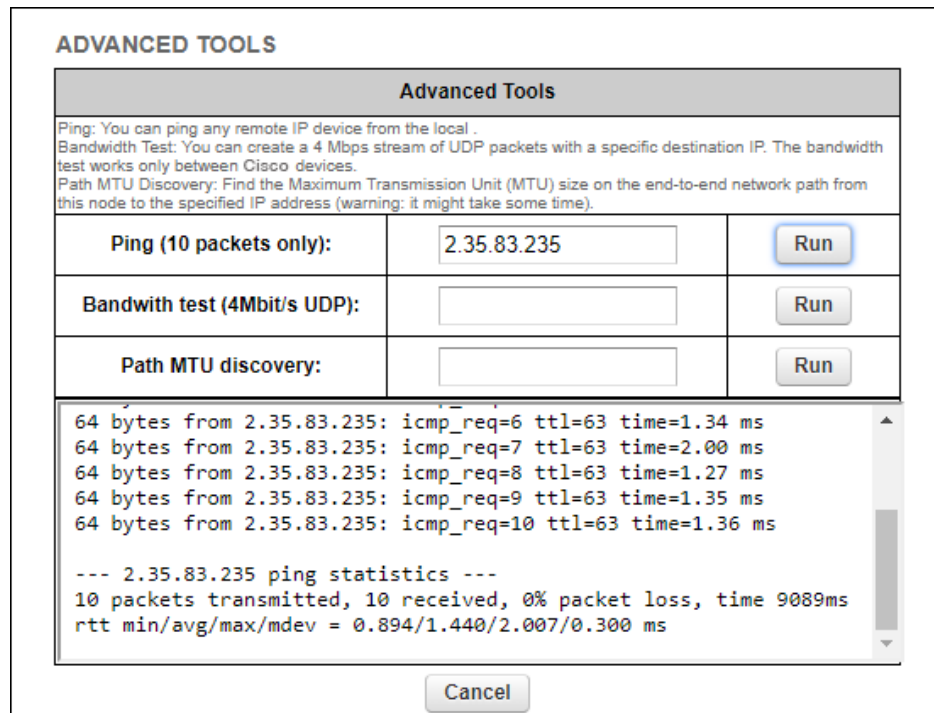

Figure 28. Advanced Tools window (Ping test tool)
2. Enter the IP address of the other unit in the **Ping (10 packets only)** field (Figure 28 \(page 85\)).